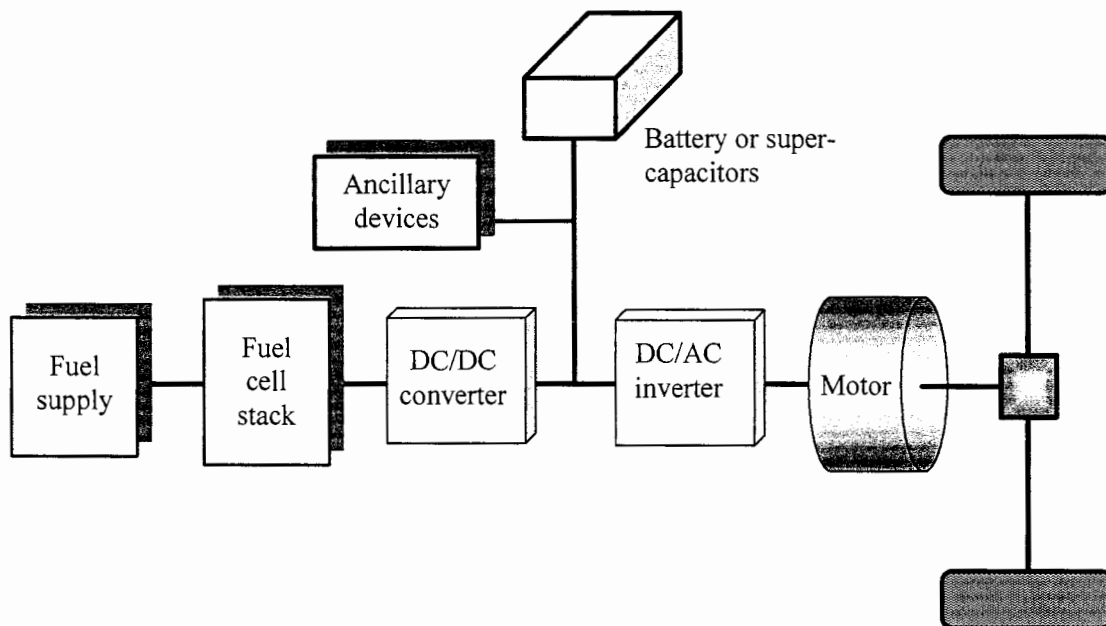

Figure 1
2. a. Sketch the output voltage versus load current density characteristic of a hydrogen fuel cell operating at a temperature below 100 °C, and describe the main causes of the cell voltage reduction from its ideal value with increasing current density. (10)
- b. Describe the charge double layer effect in a fuel cell, and explain how this effect can be represented in an equivalent electrical circuit. (6)
- c. Figure 1 shows the schematic of a fuel cell powered drive train for electric vehicles. Explain why a DC/DC converter and energy storage devices, e.g., battery or super-capacitors are often required in such a system. (4)